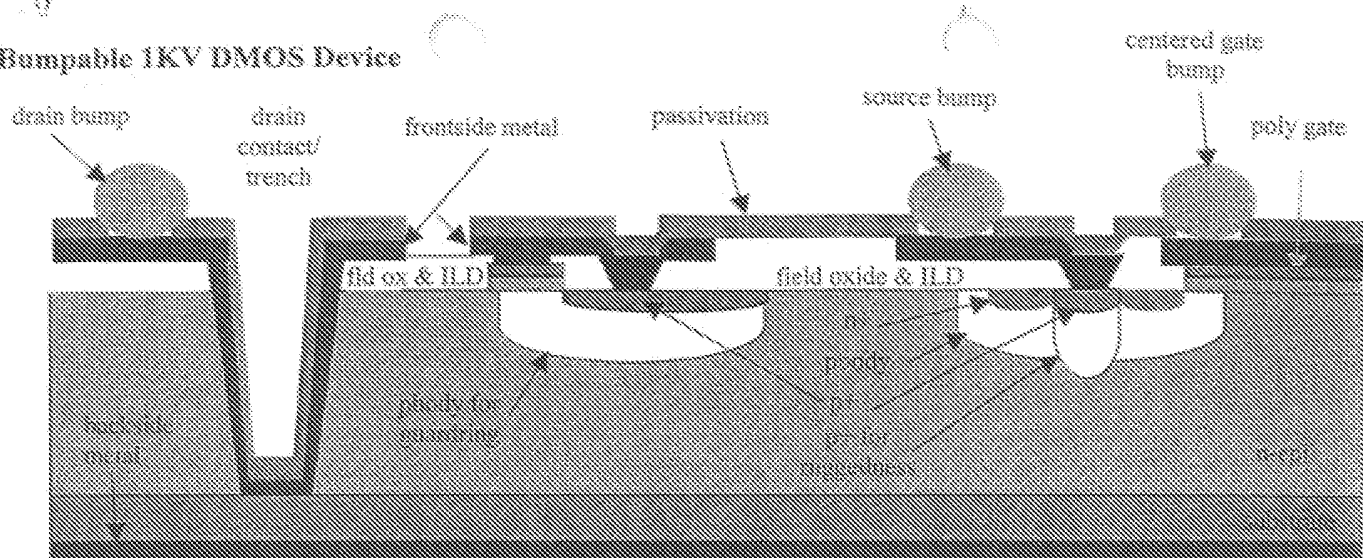

Figure 1 – Bumpable 1KV DMOS Device Simplified Cross Section
11. List all features of the invention that are believed to be novel. Etches in the <100> surface orientation to create a "trench" in the epitaxial silicon, allowing contact to the substrate-drain of the device (see Figure 1). A bumped 1KV DMOS vertical mosfet.